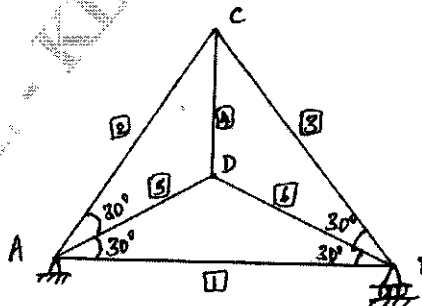

Fig.Q7
- 7 A triangular plane truss shown in Fig.Q7, has cross sectional area of  $3500 \text{ mm}^2$  for all the members. The member AB was found to be 5 mm shorter than the correct length at the time of assembling. Find the forces in all the members, if the member AB is forced in position. Use force transformation method. Take member AB as redundant. Take  $E = 210 \text{ GPa}$ .